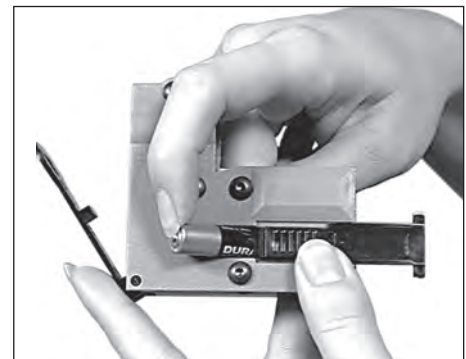

FIG 127
1. Insert the battery into its receptacle **FIG 127** and push the black switch lever to insure the device is working properly.